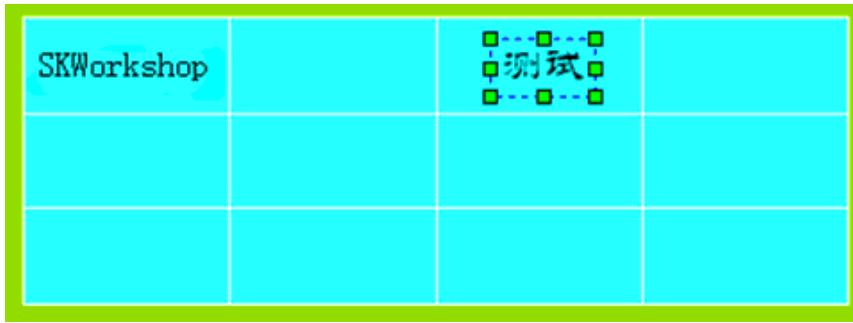

Figure 4-40: An example of a table drawn
- After modifying the table properties, click OK button to close the dialog. Then, in the picture editing window the mouse will become . Move the mouse to a position where the table will be displayed, left click the mouse and drag it to another appropriate position before left clicking again. The system will automatically draw a table. See Figure 4-40.